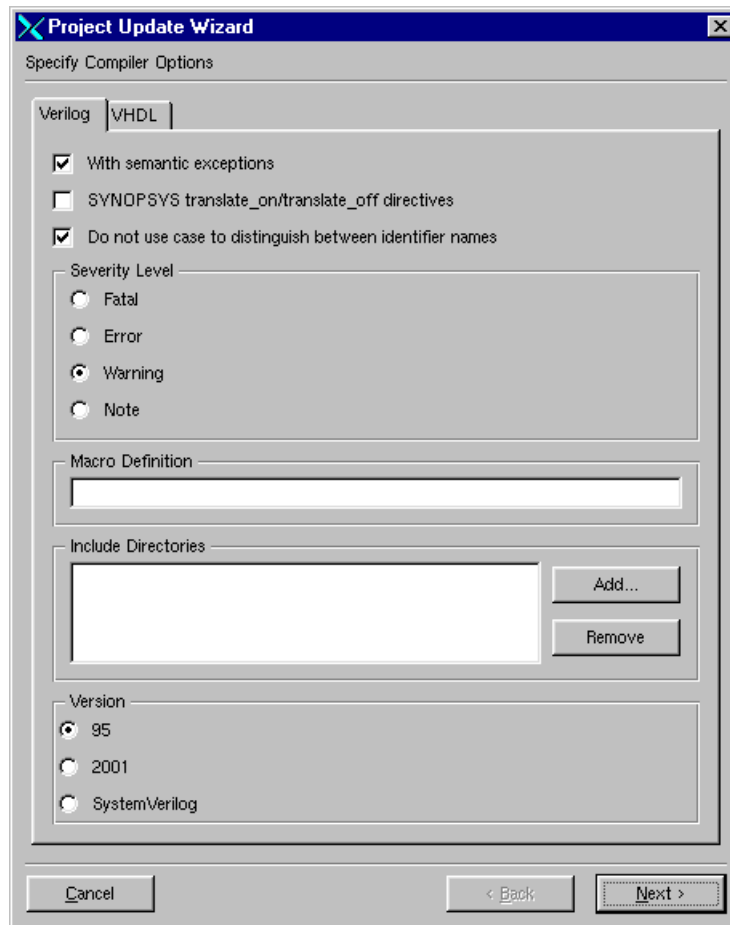

Figure 44: Project Update Wizard
1. Choose **Project > Edit** from the main window. This brings up the Project Update Wizard (see Figure 44).